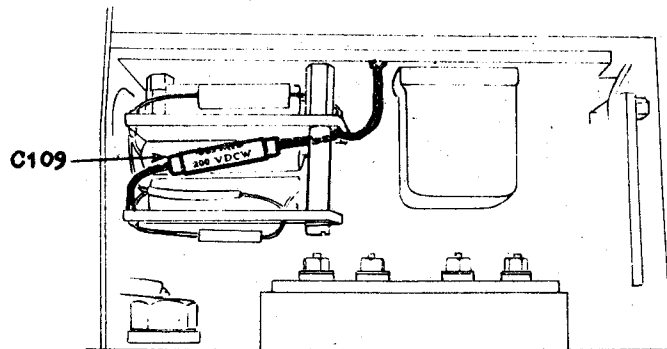

FIG. 1
8. Change C 109 in the following manner; (see Fig. 1):-